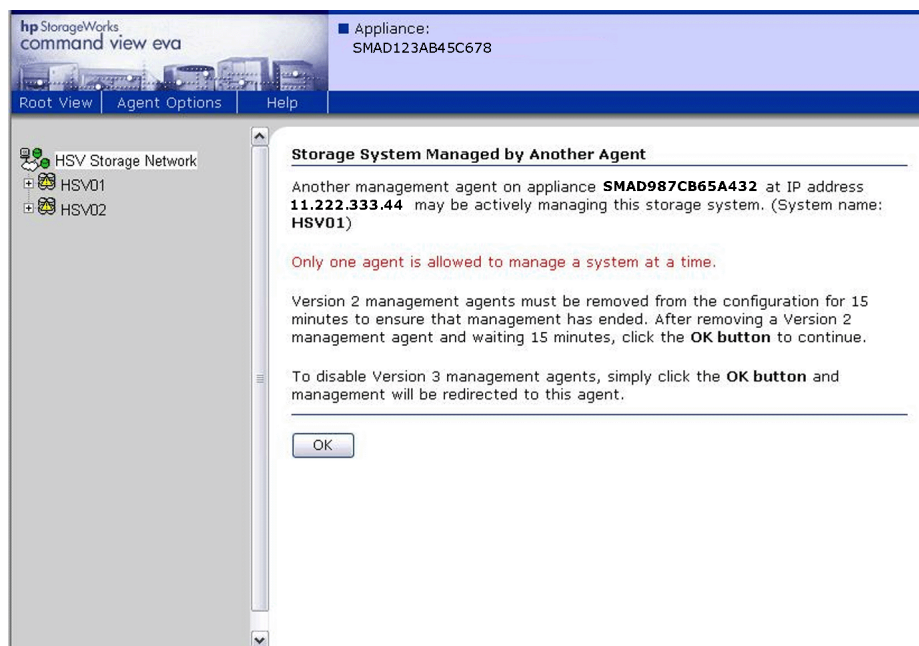

Figure 37: Storage System Managed by Another Agent page
3. Click a storage icon in the navigation pane. A page similar to Figure 37 is displayed to inform you that another instance of Command View EVA is managing the storage systems.